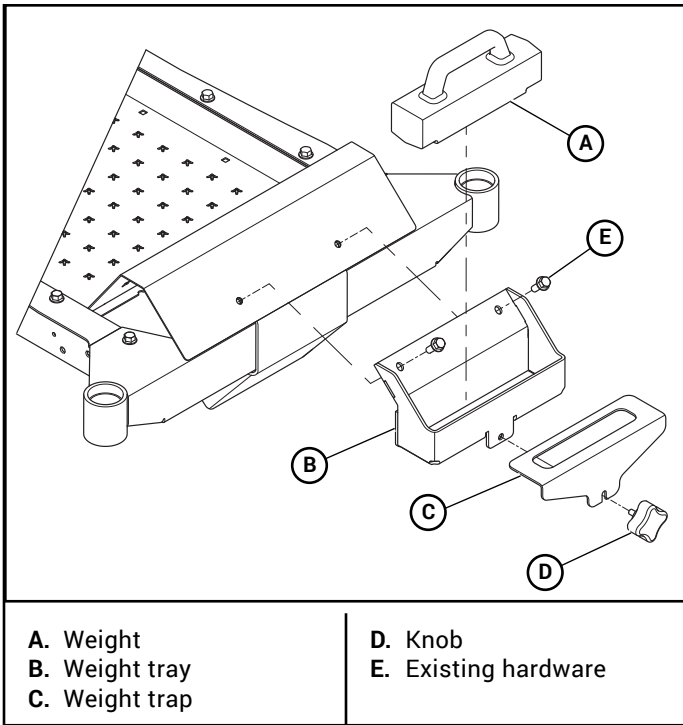

Figure 3-20
22. Attach the weight tray to the front mower frame. Figure 3-20
23. Insert the weight into the weight tray and secure in place with the weight trap using the hand knob to clamp the weight trap in place. Figure 3-20